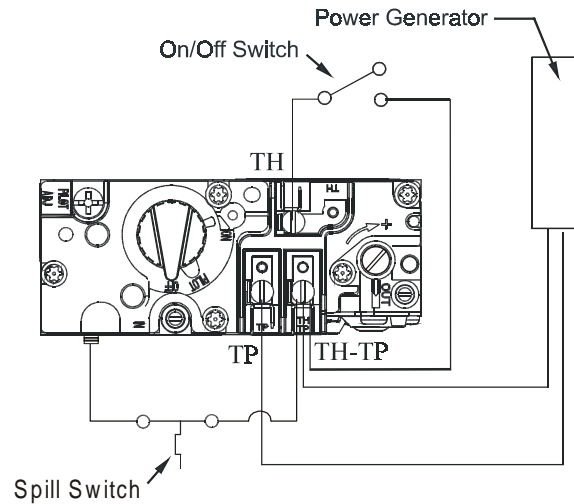

Figure 24a. Honeywell gas valve used on the EP28-F2.
- Have the fireplace installation inspected yearly, including a visual check of the vent system, the burner and the pilot flame. For your convenience a 1/8" manifold pressure tap is supplied on the gas valve for a test gauge connection. See Figure 24a, 24b, and 24c.
2. Locate Pilot Adjustment Screw. (See figures 24a, 24b, and 24c.)
Pilot won't ignite	Disconnect remote wires and try to light pilot. If pilot now works, remote connections are faulty. Check wiring diagram figure 24a/b/c .
Main burner will not light	1. Check wiring (see figure 24a/b/c) 2. Check wall switch for proper connection.